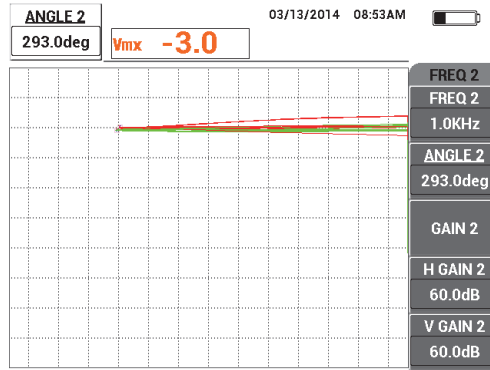

Figure 5-102 Adjusting the angle of the frequency 2 lift-off signal
- While continuing to gently tap the probe on position 1, press the ANGLE key () twice to open the ANGLE 2 parameter, and then adjust the angle of the frequency 2 lift-off signal until it also is oriented towards the right side of the screen, superposed on the frequency 1 signal (see Figure 5-102 on page 200).